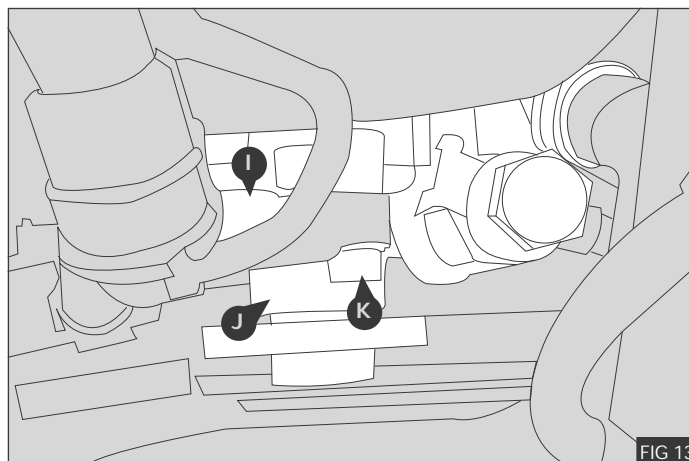

FIG 13
1. Secure the PAS pump (J), minus the rotor, to the mount bracket (I) using the OE M8 socket head bolts (K) and washers - Fig 13.
**Note:** It is easier to put the PAS pump (J) into position from the top side of the engine.
2. Torque OE M8 socket head bolts (K) to 29 Nm / 21.4 lb.ft - Fig 13.